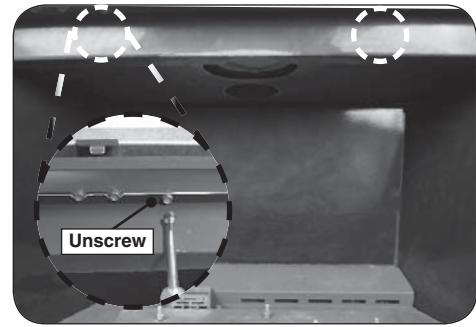

Fig. 50-1 Remove lintel
1. Remove the lintel found at the top front of the unit. For 30 models, use a $\frac{5}{16}$ " nut driver to remove the two hex screws found on each side of the lintel. For 25 models, use a Phillips screw driver. See Fig. 50-1.